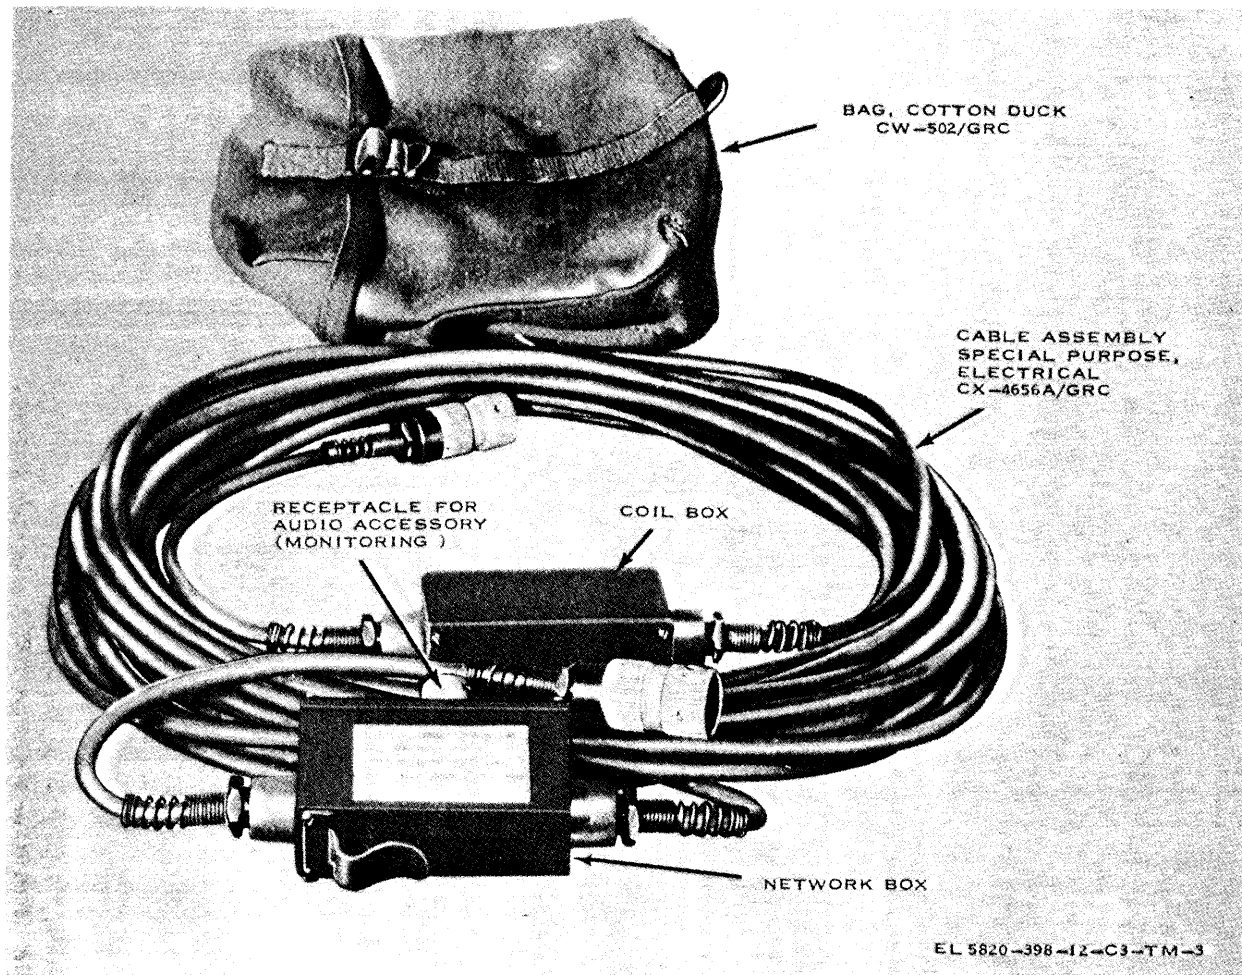

Figure 6-1. Retransmission Cable Kit MK-456A/GRC.
With Cable Assembly, Special Purpose, Electrical CX-4656/GRC from Retransmission Cable Kit MK-456/GRC (fig. 6-1), two compatible FM radios may be used as a radio relay for other radio sets that are too far distant to communicate directly with each other. The radio relay can be accomplished by interconnecting the radios listed in paragraph 3-10c(1) through (3) with the CX-4656/GRC as shown in figure 6-2.
(6) Communicate with radio set No. 1 from radio set No. 2, and advise the radio set No. 1 operator that the relay site is prepared for communication with radio set No. 4
(7) Communicate with radio set No. 4 from radio set No. 3, and advise the radio set No. 4 operator that the relay site is prepared for communication with radio set No. 1
(8) Communication proceeds automatically between radio sets No. 1 and No. 4 with out any operation required at the relay site.
(9) For the operator at the relay site to communicate with radio set No. 4 connect a handset to the audio connector in the network box (fig. 6-1 and 6-1.1). To communicate with radio set No. 1, connect the handset to radio set No. 2 (which is the one that is next to the network box).